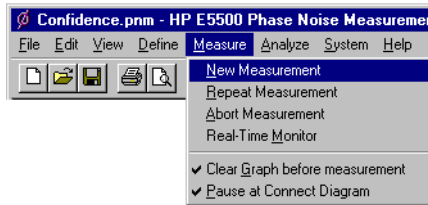

Figure 7-40 Selecting a New Measurement
- 1 From the **Measurement** menu, choose **New Measurement**. See Figure 7-40.